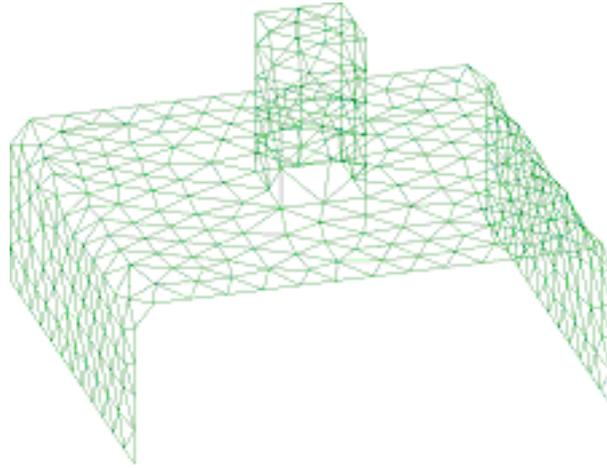
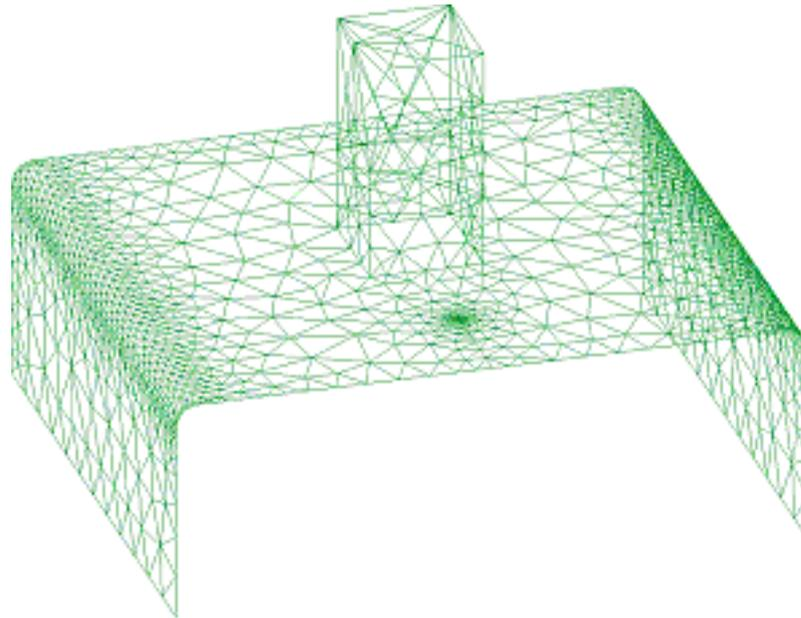

Figure 10. Mesh using the RJump mesher.
Figure 13. Mesh using the RJump mesher, assigning sizes by chordal error and forcing an entity to be meshed.
- 6 . Another window appears in which you can enter a maximum element size. Leave the default value unaltered and click **OK**. This results in a mesh where contact lines between surfaces that are tangent enough do not have nodes; contact points between lines tangent enough are also skipped when meshing (see Figure 10).
- 7 . Another window appears in which you can enter a maximum element size. Leave the default value unaltered and click **OK**. This results in a mesh like the one obtained before (in Figure 10), but with high concentration of elements around point number 29. Note that there are nodes on line number 43 because we have forced RJump not to skip this line (see Figure 13).